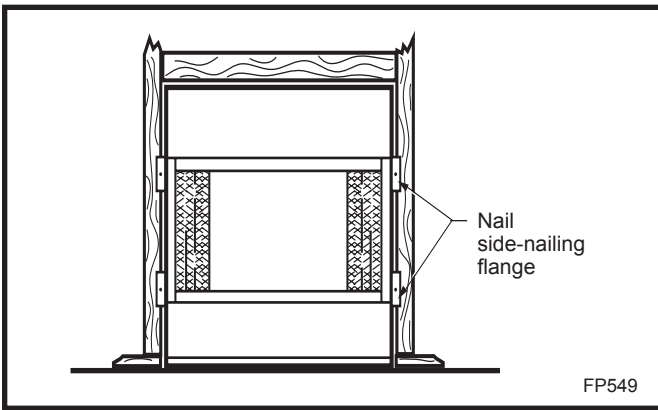

Fig. 3 Adjustable drywall strip (nailing flange).
Four (4) nailing flanges are supplied with the fireplace (found on the fireplace hearth). To level the box and secure it firmly in place, remove the nailing flanges from the hearth and install at the sides of the fireplace as shown in Figure 3.